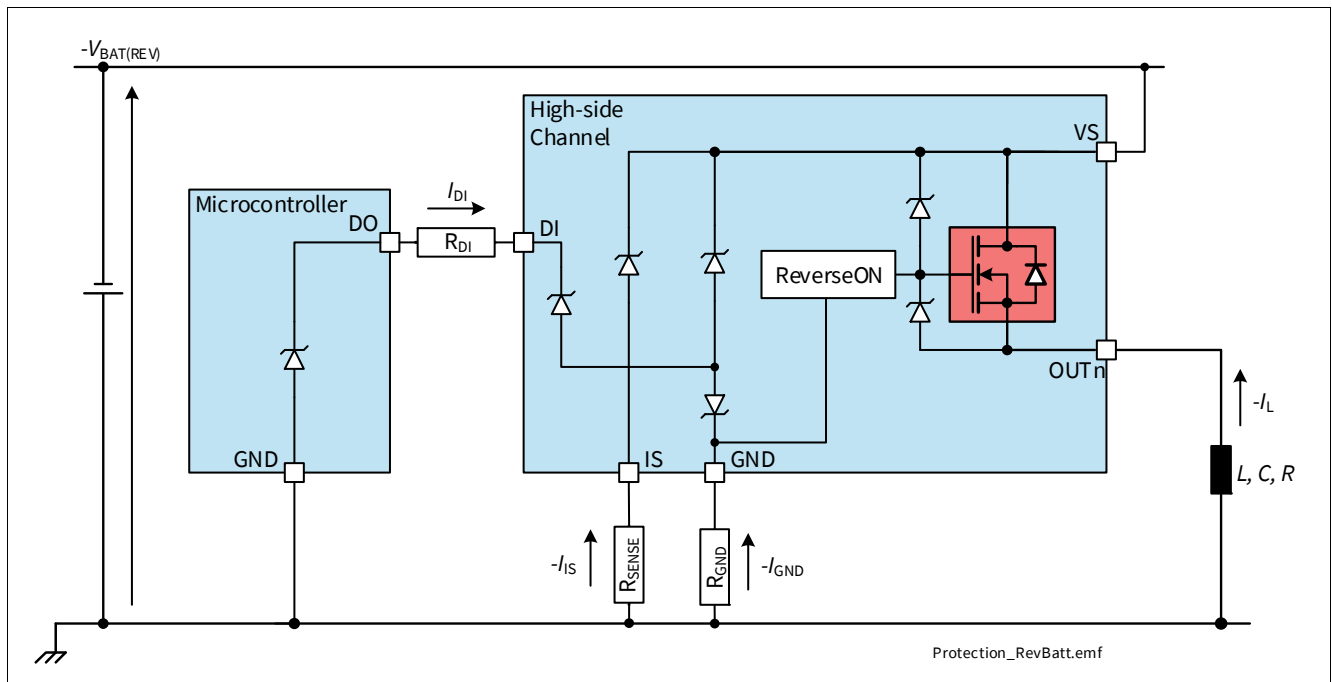

Figure 31 Reverse Battery Protection (application example)
**Figure 31** shows a typical application including a device with ReverseON. A current flowing into GND pin ( $-I_{GND}$ ) during Reverse Polarity condition is necessary to activate ReverseON, therefore a resistive path between module ground and device GND pin must be present.